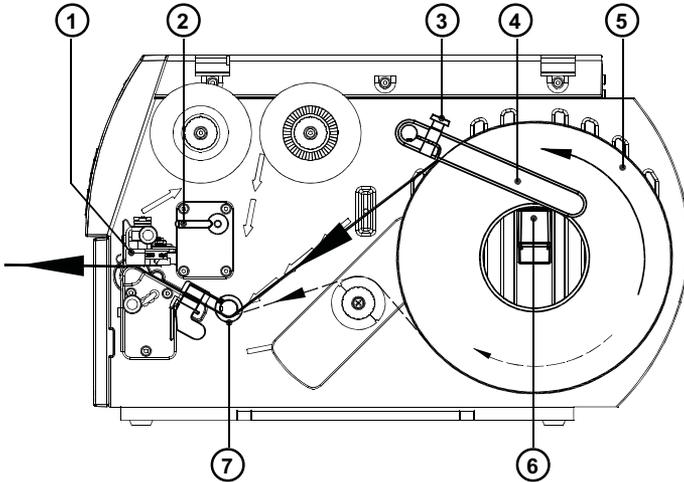

Figure 2
1. Loosen the knurled screw (3), swing the media retainer (4) upwards and slide it out as far as possible.
2. Place the media roll (5) onto the media hub (6) and unwind a strip of media from the media roll. Make sure the labels are facing up. Slide the roll onto the media hub (6) until its stops.
3. Swing the media retainer (4) downwards until it touches the media hub (6). Push the media retainer against the supply role until it rests against the label media. Tighten the knurled screw (3).
4. Raise the printhead assembly (1) by rotating the lever (2) clockwise until it stops.
5. Slide the media guide ring (7) outward, allowing enough clearance for the label stock's width when loaded.
6. Slide the media strip through the printer as shown in figure 2. The feed path for labels wound-out is represented by a solid line, and the feed path for wound-in labels is represented by a broken line.
7. Move the label edge sensor assembly (8) in such a position that the sensor (9) itself can detect label gaps, notches or reflective marks. The adjustment of the sensor is performed by sliding the handle (10) in and out.